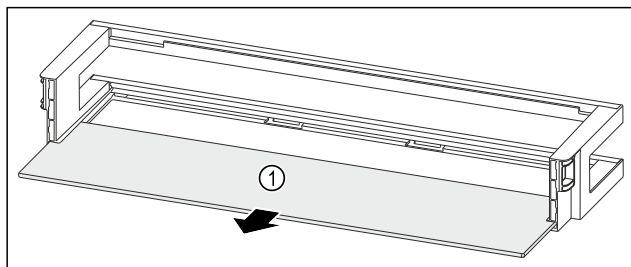

Fig. 99 Door racks with shelf
- ▶ Remove the shelf Fig. 99 (1).